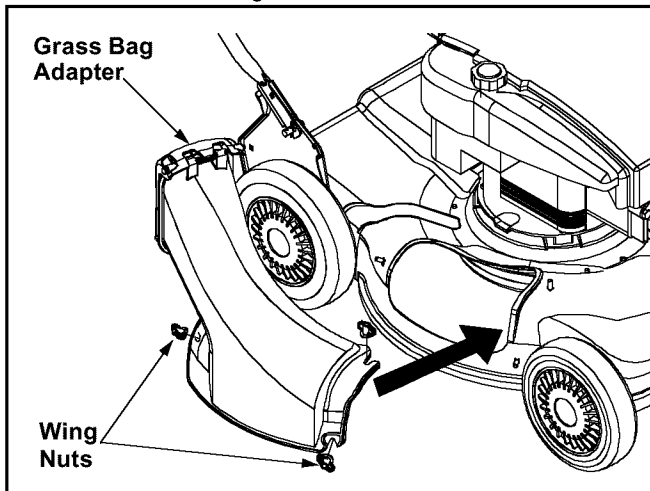

Figure 7
- Remove three wing nuts holding the mulching baffle or side discharge chute in place and remove from unit. See Figure 7.